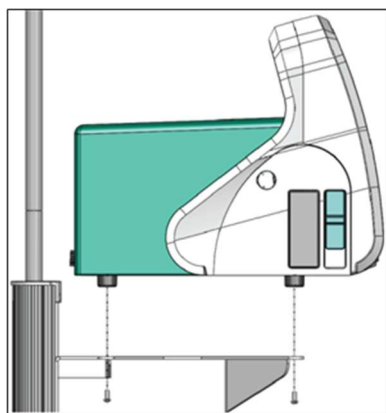

Figure 9a: Secure CataPulse® Console to Cart Shelf with Barrel Bolts. Side View
4. With a person holding the Console in place on the Cart Shelf, bolt the CataPulse® Console to the Cart shelf with the 4 Barrel Bolts provided (See Figure 9a below).